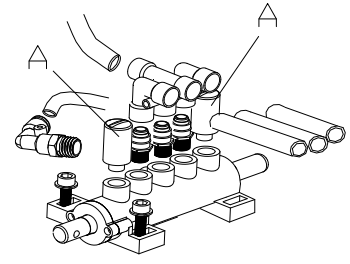

Fig 13
2. Loosen the valve Muffler (A) which belong to Jaws open and close Pedal and Bead Breaker Pedal; (Fig13)
3. Clean the mufflers with compressed air, please replace it referring to the spare parts list if it is damaged. (Fig13)